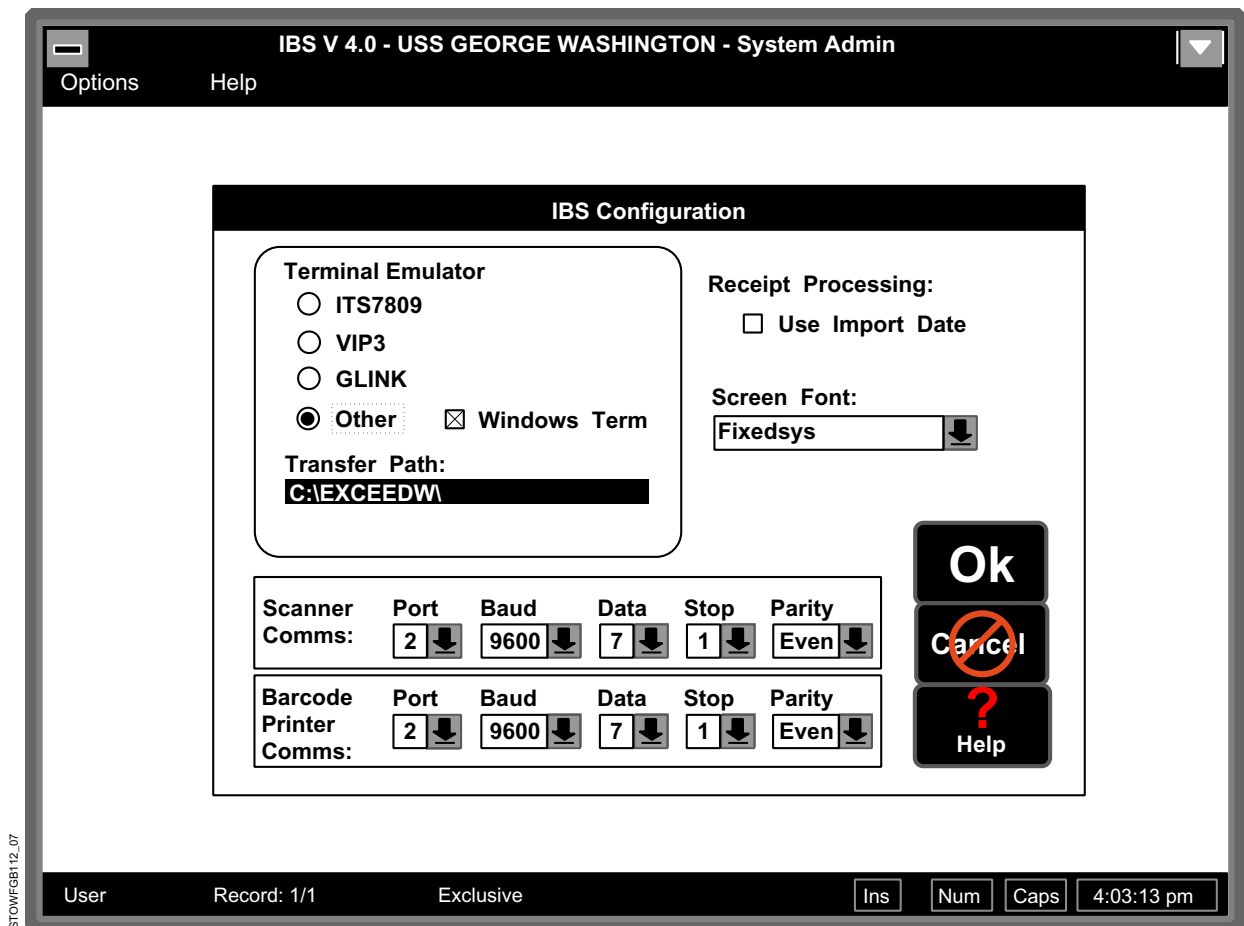

Figure 7
- (9) Step 9. If you selected the Other Option in the previous step, enter the transfer path you wish to use for the ported form of this program (figures 7 and 8).
- (10) Step 10. Select whether you wish to use an import date for receipt processing.
- (11) Step 11. Select the down arrow next to the Screen Font Data Block to view the fonts available to you. Select one of those fonts if you wish to change the default setting.